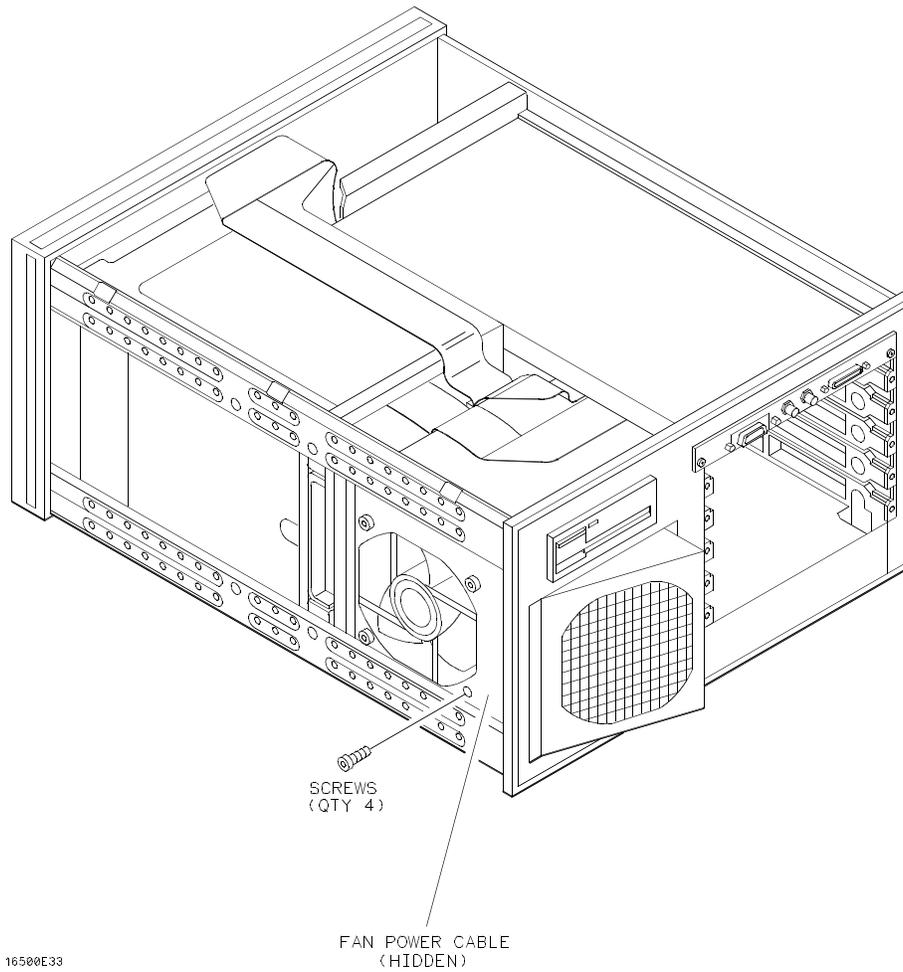

Figure 6-42. Side Fan Replacement
3. Reach through the top of the instrument and disconnect the fan power cable. Figure 6-42 shows the bottom view of the instrument.